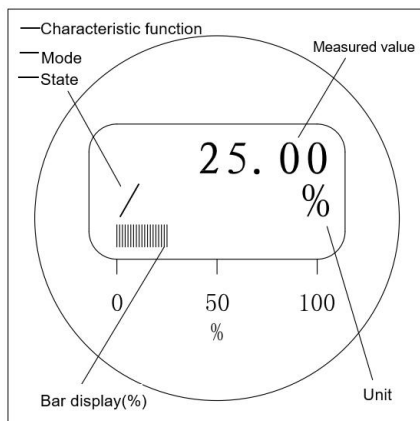

Fig.15 LCD display head
When equipped with an LCD display, the transmitter can be configured as follows with the (Z) and (S) buttons on the meter head. (**Note:** the name and items in the table respectively are displayed on the first or second row on the LCD meter head). The LCD display (Fig. 15 LCD display head) and menu function list are shown in the figure below.